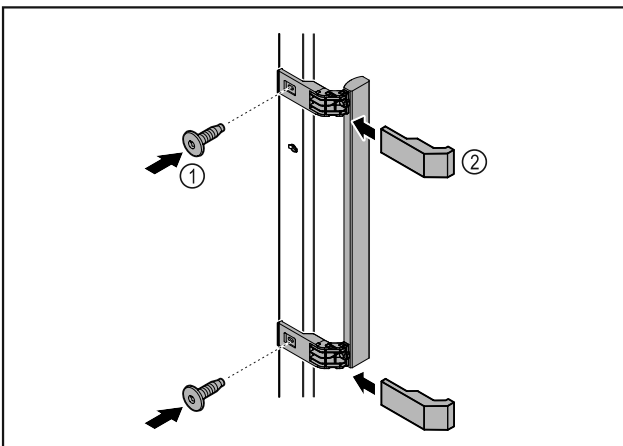

Fig. 8
- ▶ Attach handle from accessory kit to the door using the screws supplied Fig. 8 (1).
- ▶ Put on cover Fig. 8 (2).